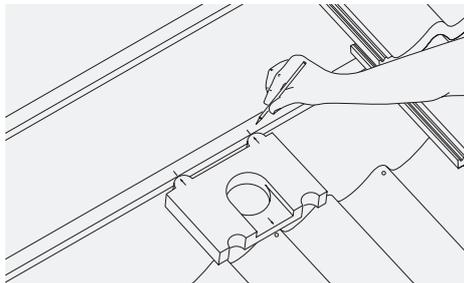

Fig. 1 – Mark position
- 1 All tile vent terminals come with polystyrene packaging which also acts as a template. Place template flat onto underlay at desired position (Fig. 1).